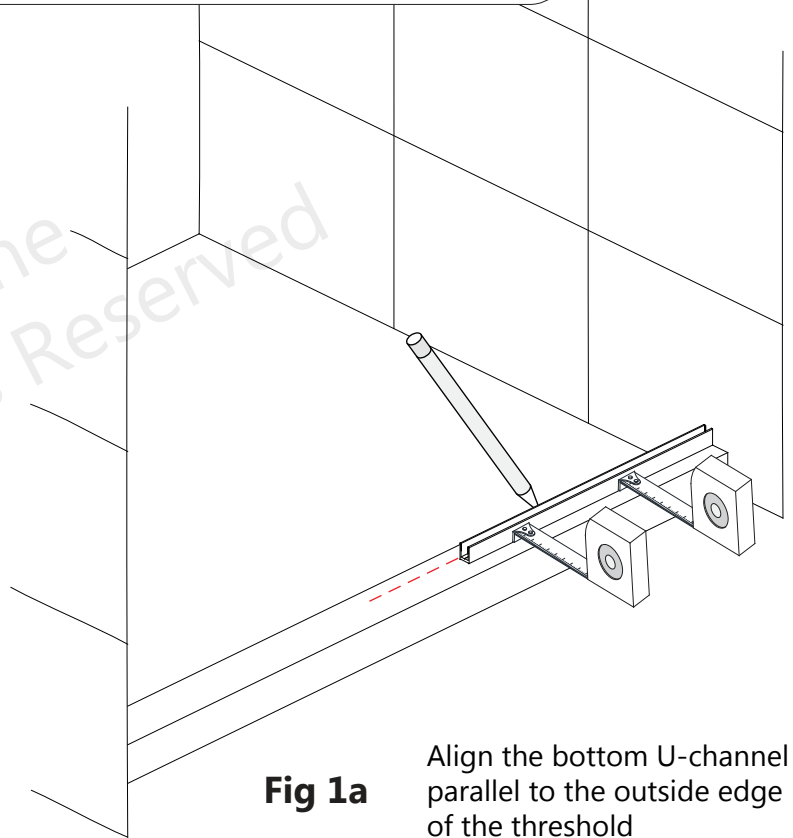
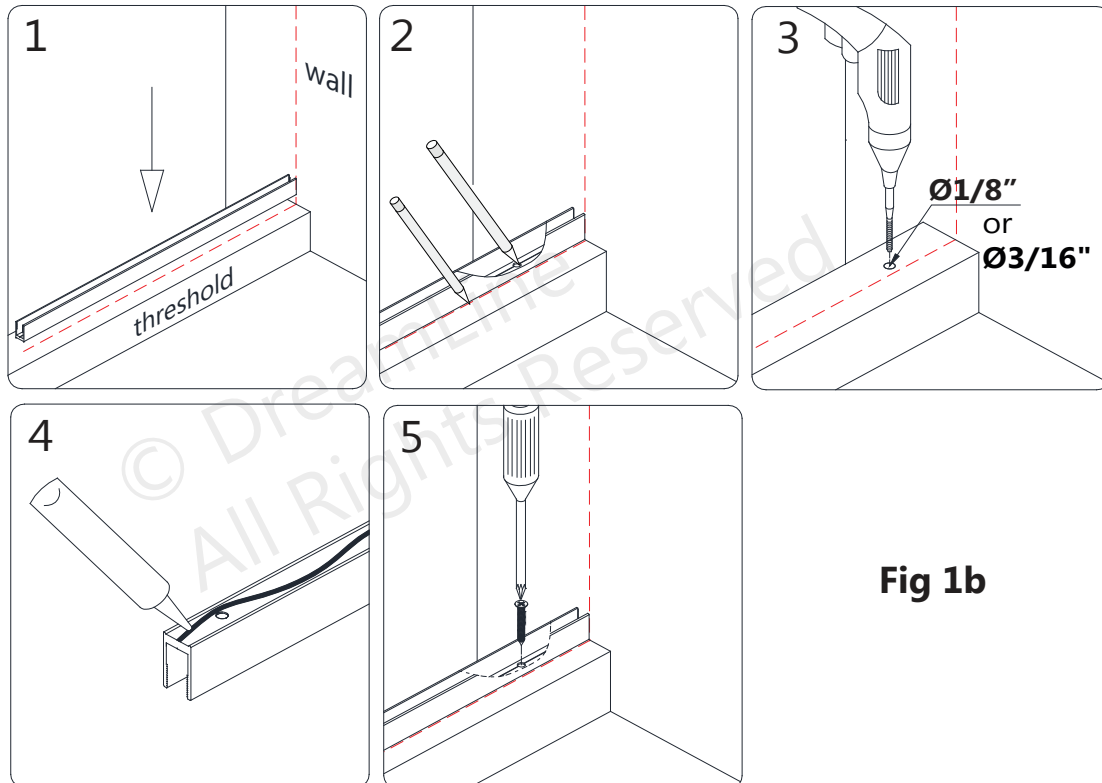

Fig 1a
Fig 1b
(Fig 1b.3)
- Apply a bead of silicone to the bottom of the **Bottom U-Channel (34") (#29)** and attach it to the threshold using the **ST4.0 x 40 Pan Head Screws (#23)**. **(Fig 1a and Fig 1b)**